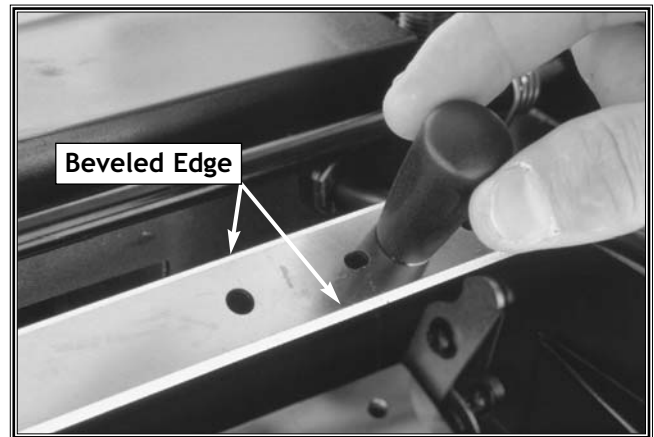

Figure 21. Position the magnets and blade taper.
3. Set the magnets on the knife, so the beveled edge is facing you. See **Figure 21**.